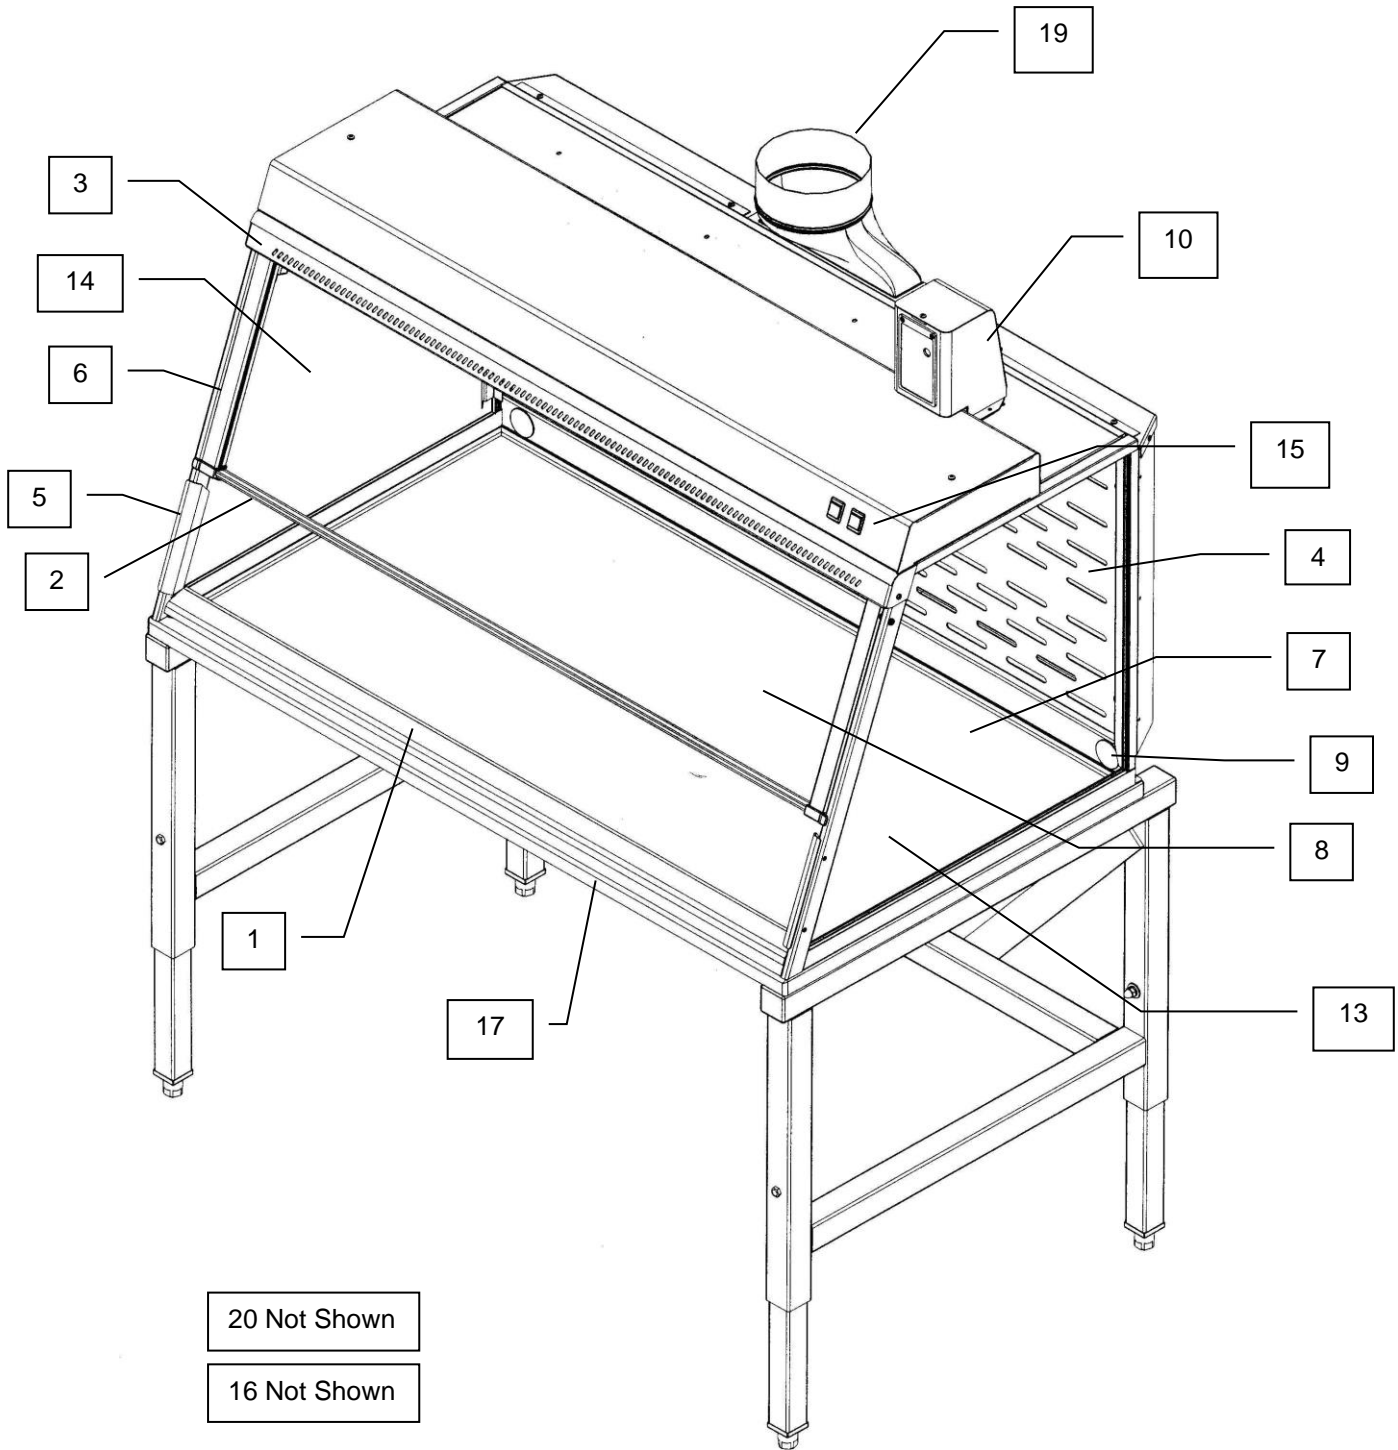

Figure 4-1
1. **Aerodynamic Clean-Sweep™ Air Foil** has a unique shape that allows air to sweep the work surface for maximum containment. The Clean-Sweep™ openings create a constant protective barrier from contaminants. Should the operator inadvertently block the airflow entering the air foil, air continues to pass under the air foil and through the Clean-Sweep openings. See Figures 4-1, 4-2 and 4-3.
2. **Containment-Enhancing Upper Sash Foil** includes an open air passage directly atop the sash foil to bleed air into the hood chamber and direct chemical concentrations away from the sash opening. The radiused sash foil sweeps airflow into the enclosure with minimal turbulence. See Figures 4-1, 4-2 and 4-4.
3. **Upper Dilution Air Supply** provides bypass air from above the work area. This feature constantly bathes the inside of the sash with clean air and reduces chemical concentrations along the sash plane, near the critical breathing zone. Five to seven percent of the required air volume is introduced through the upper dilution air supply. The upper dilution air supply also reduces stagnant pockets of air in the upper interior. See Figures 4-1 and 4-2.
4. **Stainless Steel Zoned Rear Perforated Baffle** directs horizontal laminar air streams to the three-zoned sections of the perforated baffle. The three-zoned sections have increasingly more open area at the bottom that help form laminar airflow. This minimizes the potential for air to roll forward preventing contaminants from moving toward the sash opening. The majority of contaminants are highly diluted, captured and removed on the first pass through the enclosure. See Figures 4-1 and 4-2.
5. **Side-Entry Air Foils** allow turbulence-free air to enter the enclosure from the sides and allow clean air to sweep the interior walls of the enclosure. See Figures 4-1 and 4-2.
6. **Ergonomic Slope** of 20 degrees provides maximum visibility and comfort, reduces glare thereby minimizing operator fatigue. See Figures 4-1 and 4-2.
7. **Internal Work Space** provides necessary depth to perform work inside the Protector Work Station without it extending outside the enclosure or resting on the lower air foil. Remote blower model provides 23" working depth and integral blower model provides 17.19" working depth. See Figures 4-1 and 4-2.
8. **Safety Glass Sash with Spring-Loaded Latch** has a wiping seal for maximum containment and features a spring-loaded latch to secure sash open for loading and cleaning. The sash must be down for normal operation. See Figures 4-1 and 4-2.
9. **Utility Ports with Iris (Work Station for Remote Exhaust Only)** allows electrical cords and data cords to pass through the back of enclosure without leaving a large hole for contaminants to escape. The enclosure ships with both solid plugs and iris plugs. See Figure 4-1.
10. **Accessory Guardian™ 500 Airflow Monitor or Guardian™ 1000 Digital Airflow Monitor** continuously monitors airflow. An audio/visual alarm alerts the user to low airflow conditions on both the Guardian 500 and Guardian 1000 Digital airflow monitors. The Guardian™ 1000 Digital Airflow Monitor also displays a face velocity value, provides an RS232 output, a night setback mode and several auxiliary relay ports. Both airflow monitors are available options on all Protector Work Station models. See Figure 4-1 and 4-2. See Chapter 6 for complete details, installation and calibration.
13. **Space-Saving Design** increases effective laboratory workspace, because the impeller and carbon filter are self-contained on integral blower models. On remote blower models, the interior space is increased to 23" interior depth vs. 17.19" for integral blower models. See Figure 4-1.
14. **Sash.** The sash is constructed of 1/4 inch tempered safety glass. It pivots up for loading and cleaning. See Figures 4-1 and 4-2.
15. **Control Panel.** The control panel, which is located above the sash, contains the control switches and the electronics. See Figures 4-1 and 4-2.